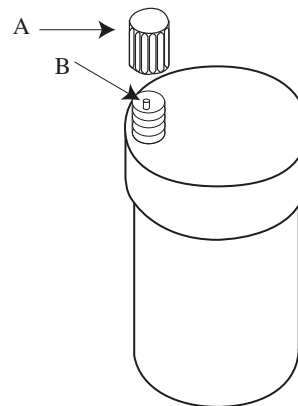

Figure 2: Automatic Air Vent
1. Remove the cap "A" from any automatic air vent in the system and check operation by depressing valve "B" slightly with the tip of a screwdriver. See Figure 2.